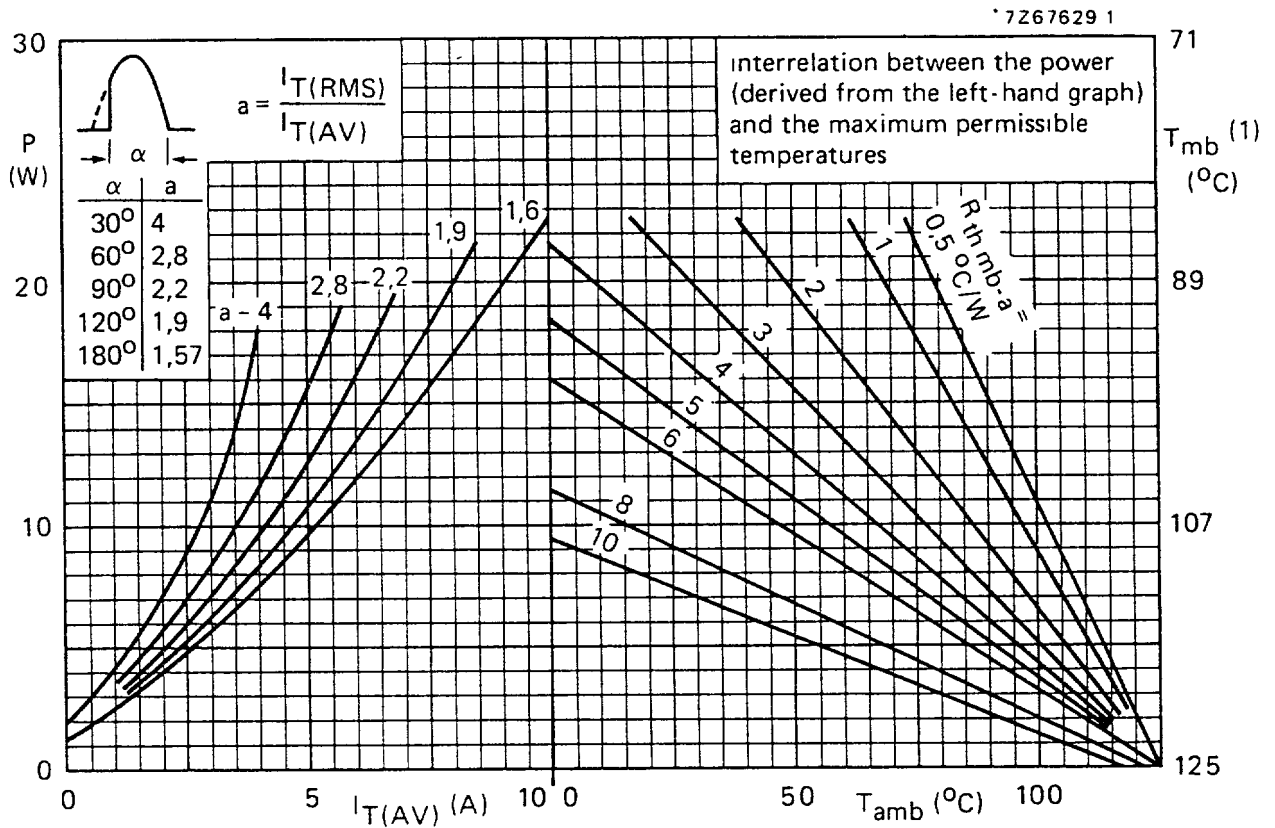

Fig. 3 (1) T_{mb} -scale is for comparison purposes only and is correct only for $R_{th\ mb-a} \leq 6$ °C/W.
* To ensure thermal stability: $R_{th j-a} < 4$ °C/W (d.c. blocking) or < 8 °C/W (a.c.). For smaller heat-sinks T_{jmax} should be derated. For a.c. see Fig. 3.